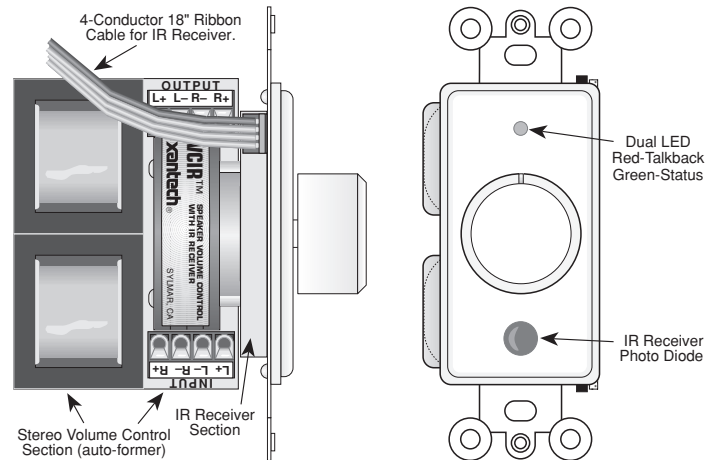

Fig. 1 The VCIR-CFL
- Important:** Be sure to orient the unit so that the IR Receiver Photo Diode (the larger window) is *below* the knob as illustrated in Fig. 1. Since hand operated wall units are typically mounted 4 feet above the floor, this orientation prevents the knob from blocking the IR signal when sent from a sitting position.